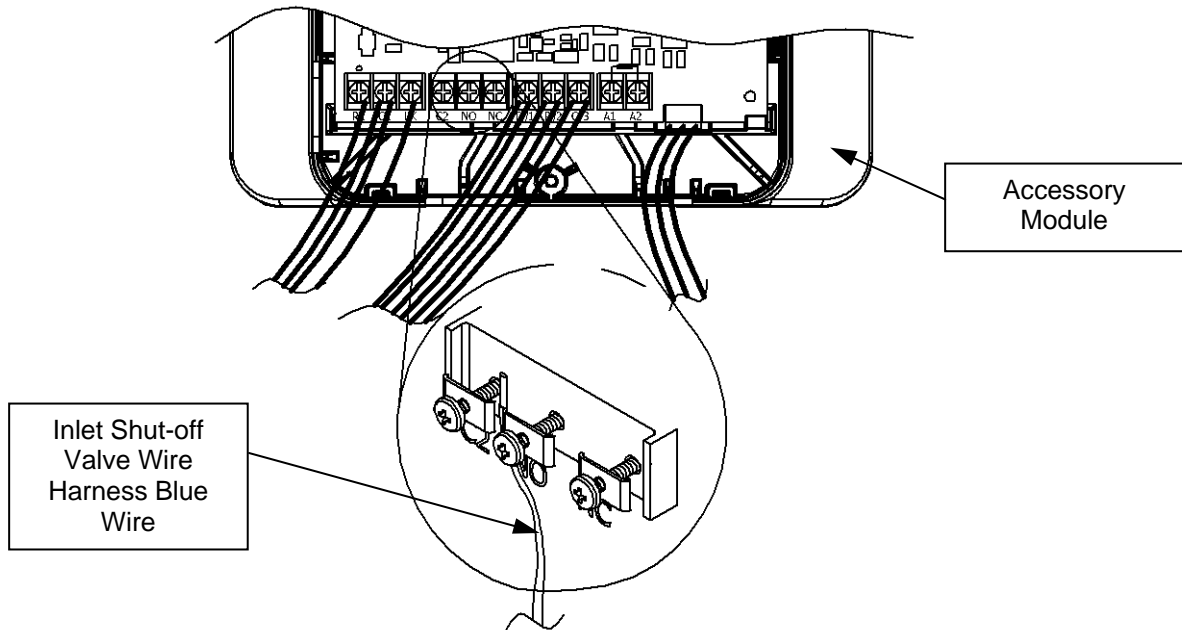

Figure 76
Step 9: Insert the blue wire, from the Inlet Shut-off Valve wire harness, under the screw labeled "C2," as shown in Figure 76.